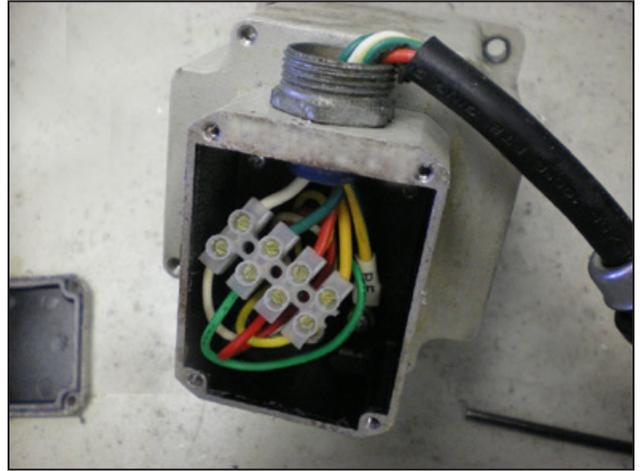

Figure 10
E. Remove motor back cover plate and disconnect or cut wires coming out of back of motor (see **Figure 10**).